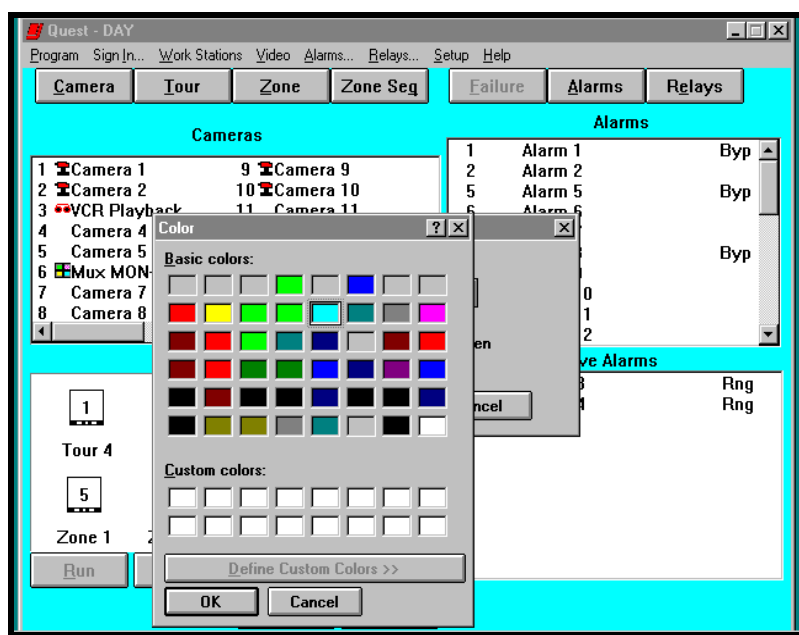

Figure 2-26. Screen Color Configuration Screen
5. Select a color by clicking the selection box (Figure 2-26) containing the color you want to use for the background.